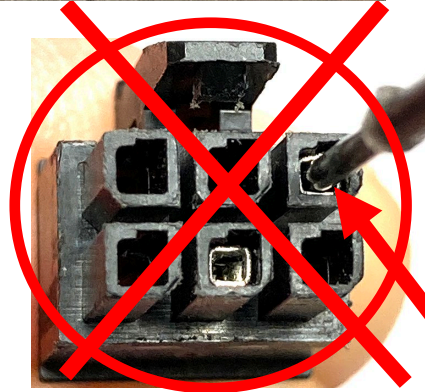
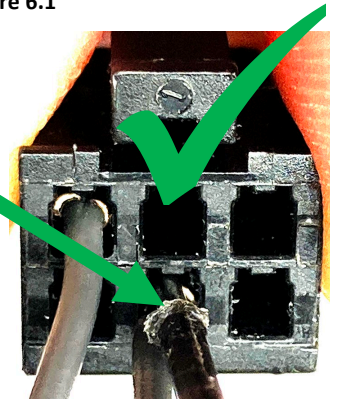

Figure 7
Figure 8
- DO NOT** test harness with needle pin test leads into the front of the pins. The leads will destroy the pins (see Figure 7). If the pins must be tested, the correct way to test the pins is to insert the lead into the connector from the **REAR** side (see Figure 8).